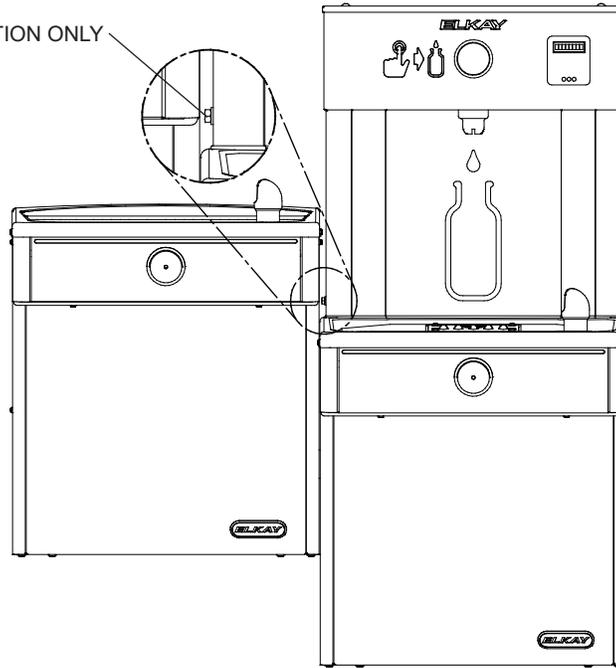

Fig. 6
- 2) **Loosen but DO NOT remove the Pinned Torx Head Screw** from the outer side of the Bottle Filler and loosen but **DO NOT** remove the 1/4" hex. head bolt from between the two cooler (See Figs 6 or 7). Remove the two (2) Pinned Torx Head Screws from the Top Cover & remove the Top Cover. The Bottle Filler may then be lifted up and off the Water Cooler (The water line will still be connected from the Water Cooler to the Bottle Filler.)